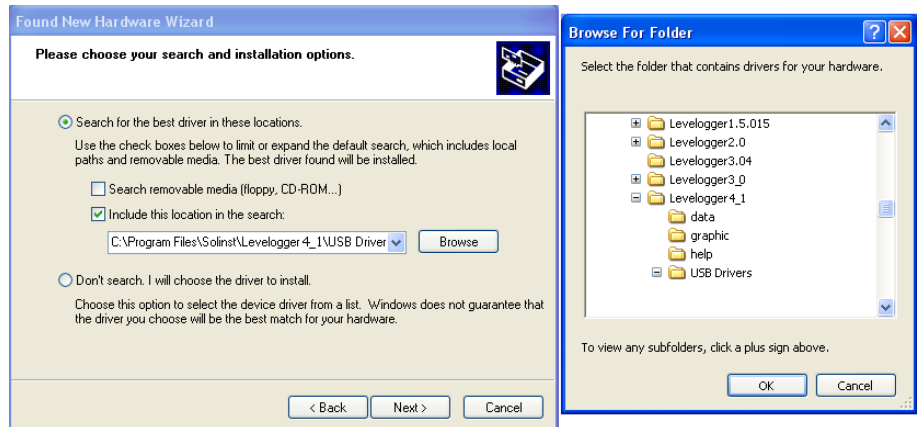

Figure 5-2 Found New Hardware Window and Figure 5-3 Browse for Folder Window
- 2) Select the installation option, 'Include this location in the search' (Figure 5-2), then click the 'Browse' Button to search for the appropriate directory: